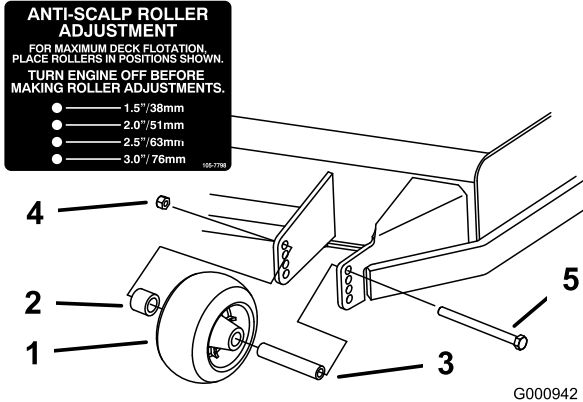
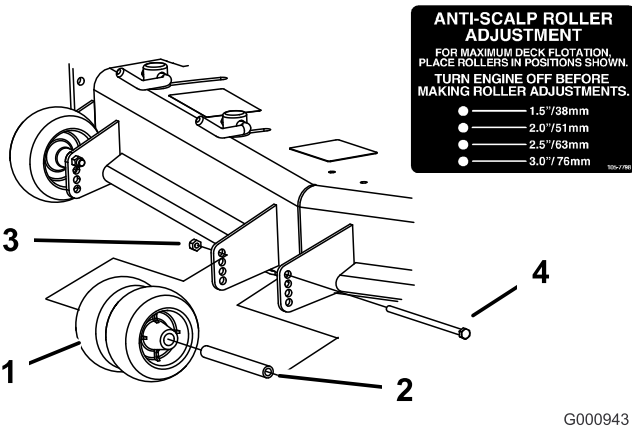
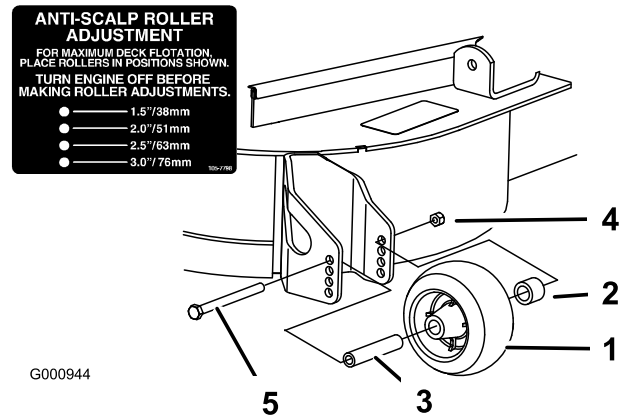

Figure 20
Figure 21
Figure 22
3. After adjusting the height-of-cut, adjust the rollers by removing the flange nut, bushing, spacer, and bolt (Figure 20, Figure 21 and Figure 22).
Note: The two middle rollers will not have a spacer (Figure 21).
- Install the flange nut bushing, spacer, and bolt. Torque to 40-45 ft-lb (54-61 N-m) (Figure 20, Figure 21 and Figure 22).